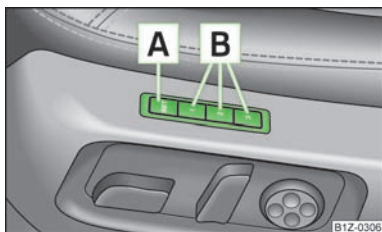

Fig. 42
The memory function for the driver's seat provides the option to store the individual positions of the driver's seat and the external mirrors. A setting position can be allocated to each of the three memory buttons  » Fig. 42, i.e. three in total.
- › Press the button   » Fig. 42.
- › Press the required memory button  » Fig. 42.
- **One-touch automatic memory:** briefly press the desired memory button  » Fig. 42. The seat and exterior mirror are moved automatically into the stored positions (this applies only if the ignition is switched on and the speed is less than 5 km/h).